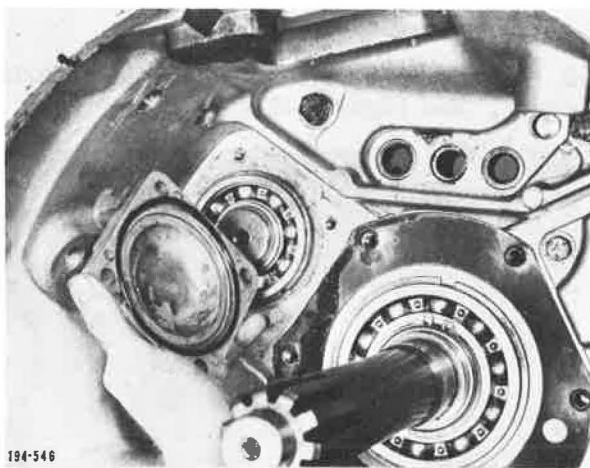

Figure 5-706. Removing Covers
11. Remove countershaft front covers. See **Figure 5-706.**